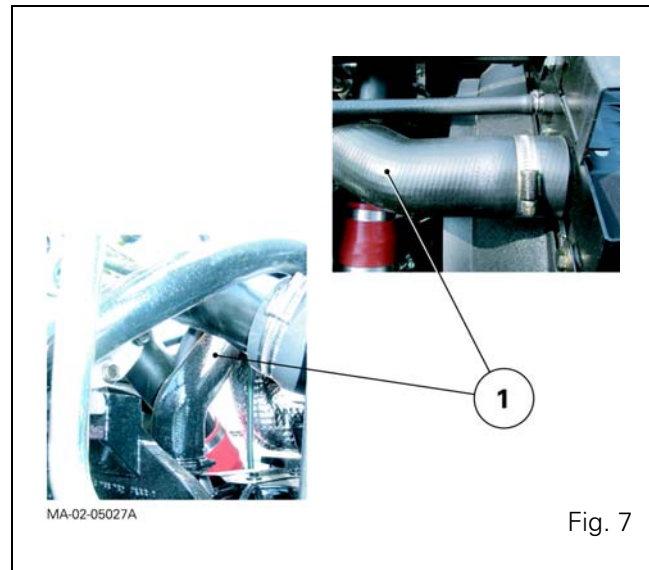

Fig. 7
15. Disconnect the upper radiator hose (1) (Fig. 7).